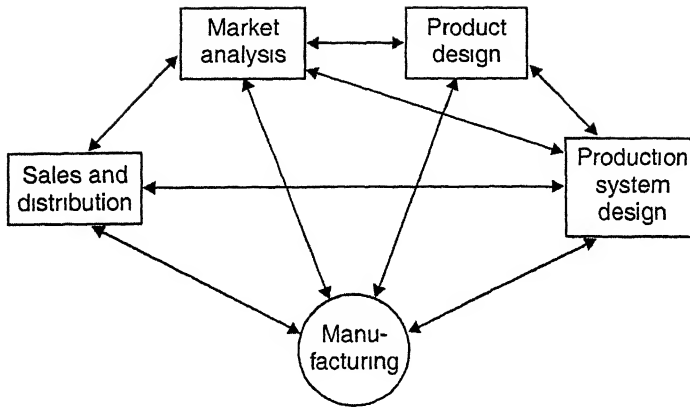

Fig. 3.8. Model of concurrent engineering.
- The concurrent engineering concept really involves the model shown in Fig. 3.8, in which the people responsible for market analysis are intimately involved as are those concerned with distribution and sales. An important aspect is to incorporate the idea of designing for a lifetime to use, i.e., *life cycle engineering*.